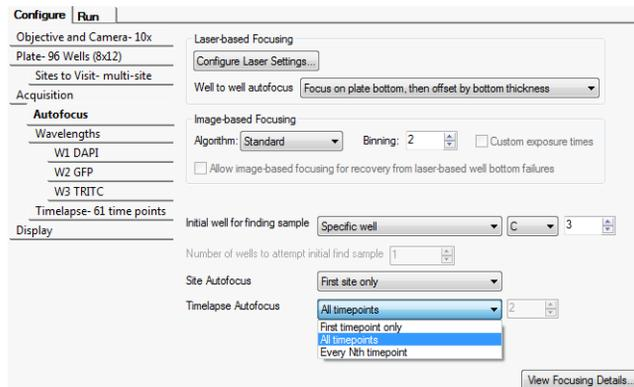

Figure 1-14: Timelapse Autofocus options
7. If applicable, select additional options on the **Autofocus** tab. See Figure 1-14 on page 25. These options include: